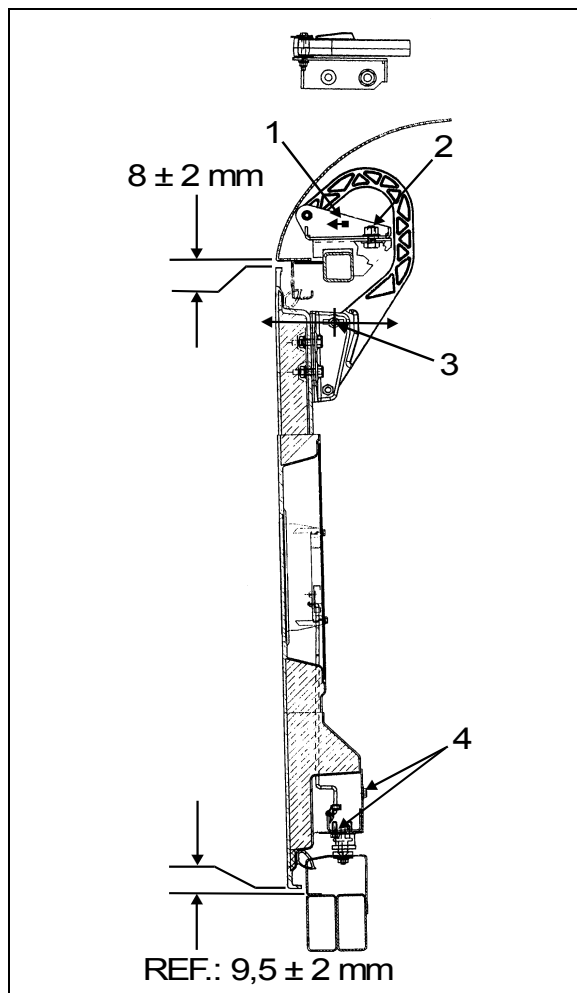

FIGURE 71: DOOR HINGE
2. Loosen nut (2, Fig. 71).
3. Move part (1, Fig. 71), as close as possible to exterior of coach, so as to have enough clearance for proper door opening.
4. Tighten nut (2, Fig. 71).
5. Loosen nut (3, Fig. 71). Hinge allows the door to be shifted "IN or OUT".
6. Adjust door panel to have the same gap space as neighboring panels or refer to figure 51 for specified gap space. Only if necessary, use the adjustment allowed by moving part 1, Fig. 71.